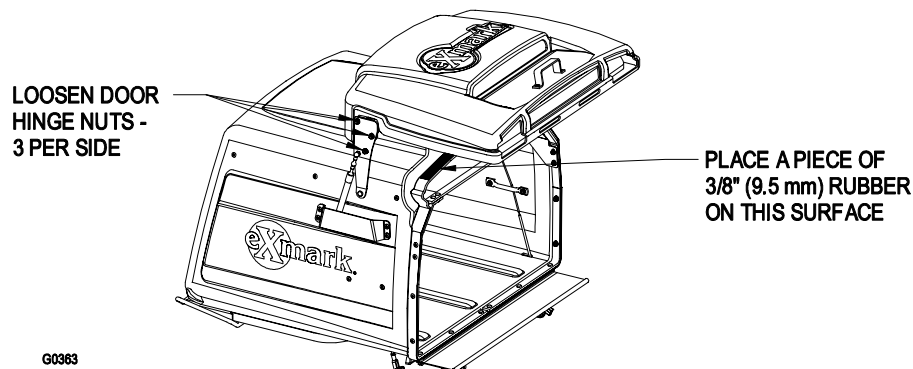

FIGURE 21
- a) Loosen 6 door hinge nuts. See Figure 21.
- b) Open door and place a 3/8" rubber strip or 3/8" diameter hose between the hopper and hopper door. See Figure 21.